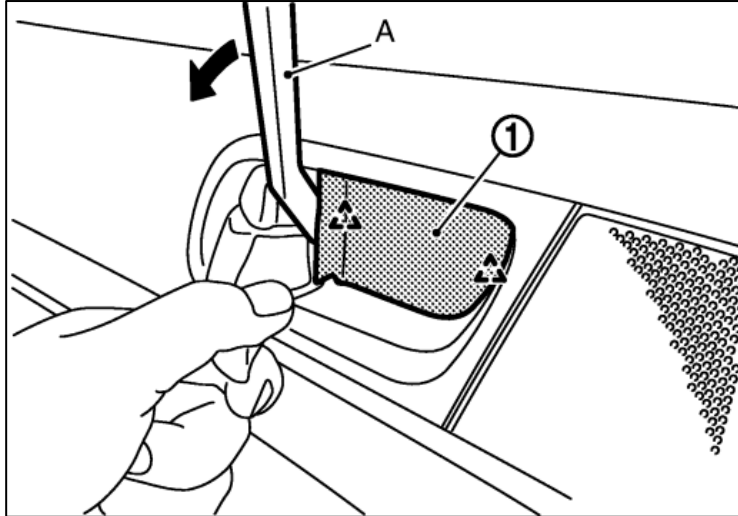

Figure 55
2. Behind the Door Handle, remove the small Trim Piece using a Trim Removal Tool. *Figure 55.*